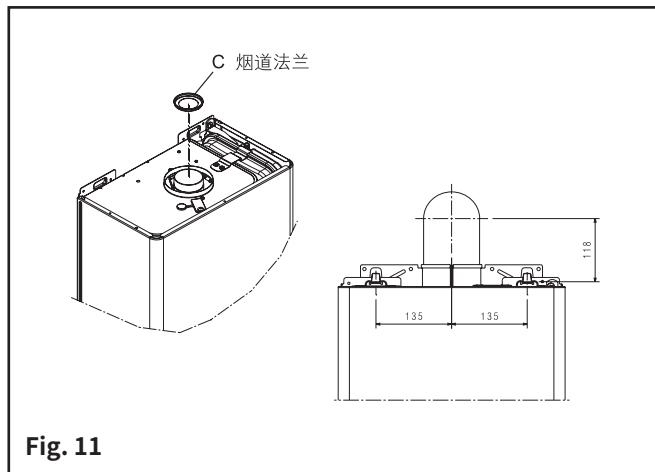

Fig. 11
6. 锅炉的进气与排烟 (Fig.11 - Fig.13)
同轴烟道 (Φ 60-100) (Fig.11 - Fig.13)